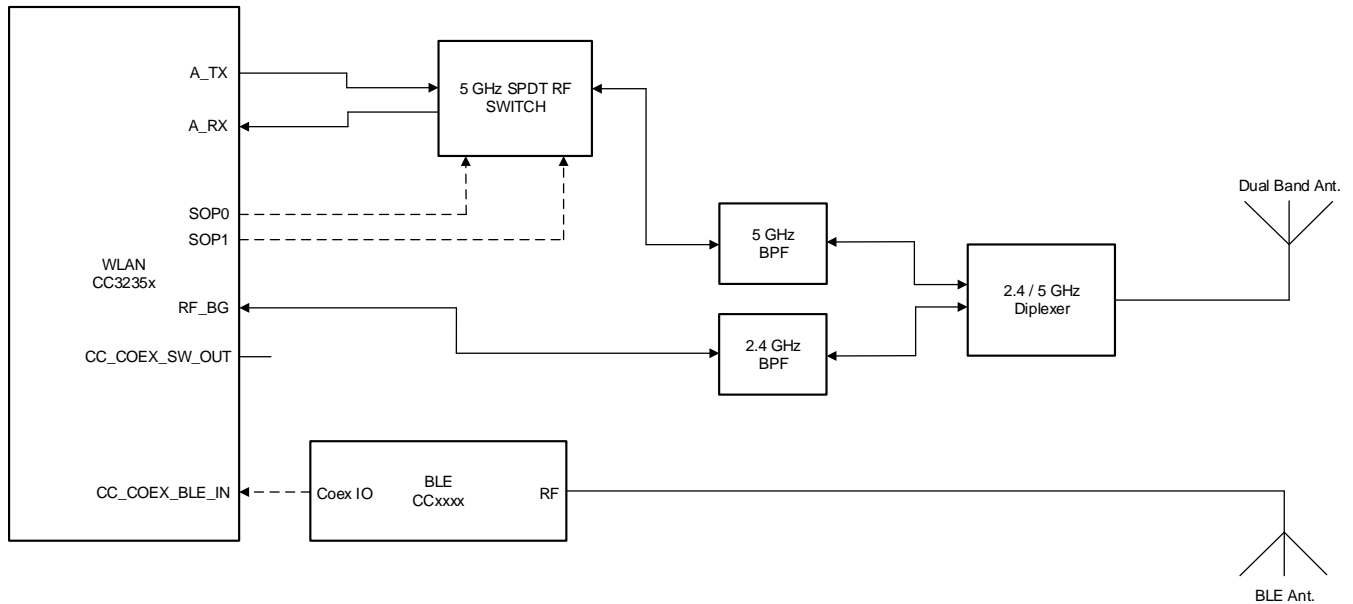

Figure 7-4. Dual Antenna Coexistence Solution with 5 GHz Wi-Fi
- 5 GHz Wi-Fi band (see Figure 7-4)
Figure 7-4 shows the dual antenna implementation of a complete Bluetooth® low energy and WLAN coexistence network with the WLAN operating on either a 2.4- or a 5 GHz band. In this case the 2.4 GHz and 5 GHz Wi-Fi share an antenna and the BLE has it's own dedicated antenna. The SOP lines control the 5 GHz switch. Note in this implementation no Coex switch is required and only a single GPIO from the BLE device to the CC3235x device is required.